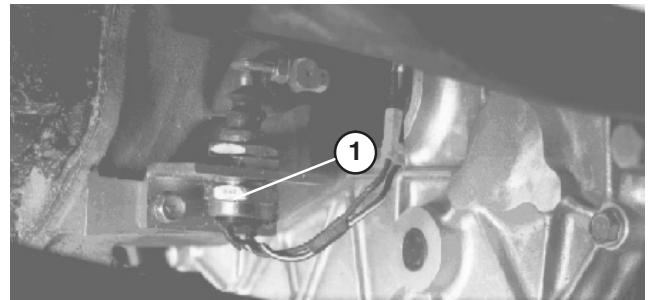

Figure 63
7. Recheck clutch safety switch adjustment (Fig. 63). Engine must not crank unless clutch pedal is $1.25'' \pm .12''$ from floor. If an adjustment is required, loosen switch jam nuts and adjust up or down.